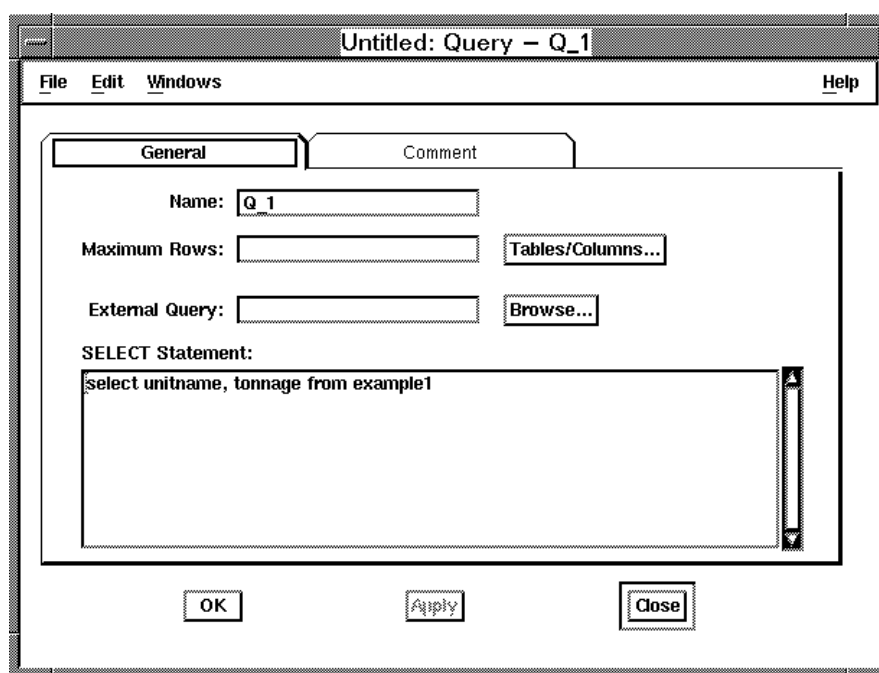

Figure 3-68. Sample Query
1. Build a report template that retrieves the unitnames and tonnage for all units in the example1 table. Open the Oracle Reports Object Navigator by choosing **Build Templates** from the **Windows** menu in the Report Configuration window. Then create a query in the Data Model. The query is shown entered in the Query Properties Sheet, Figure 3-68.